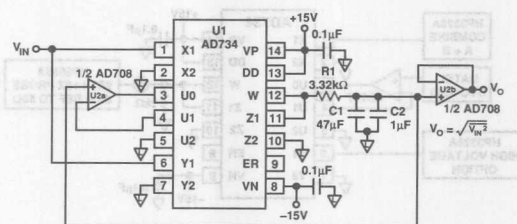

Figure 15. A 2-Chip, Wideband RMS-DC Converter
using its direct divide mode. Figure 15 shows the circuit.
In Figure 15's circuit, the AD734 squares the input signal, and its output (V_{IN}^2) is averaged by a low-pass filter that consists of R1 and C1 and has a corner frequency of 1 Hz. Because of the implicit feedback loop, this value is both the output value, V_{RMS} , and the denominator in Equation (13). U2a and U2b, an AD708 dual dc precision op amp, serve as unity-gain buffers, supplying both the output voltage and driving the U interface.